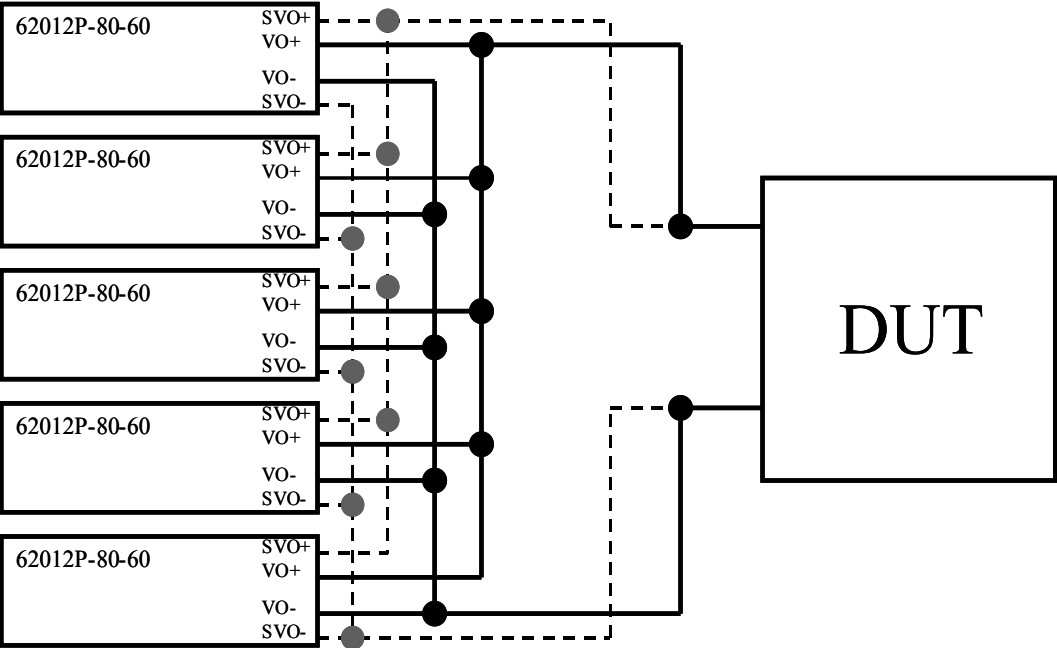
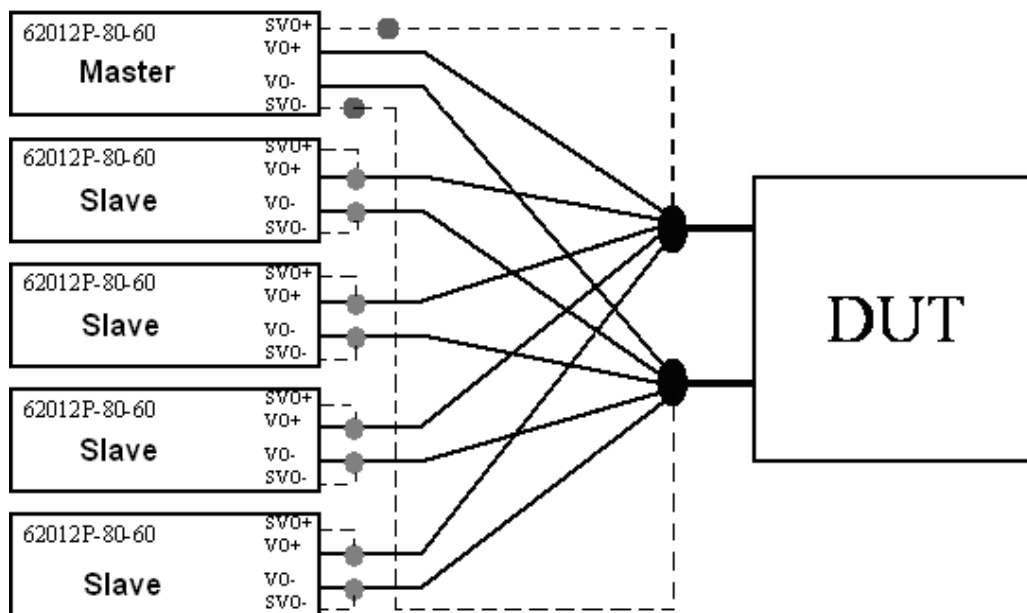

Figure 3-29
Figure 3-30
2. Figure 3-29 is the parallel connection. For 62006P-30-80, 62012P-40-120 & 62024P-40-120, it is suggested to use the connection of Figure 3-30